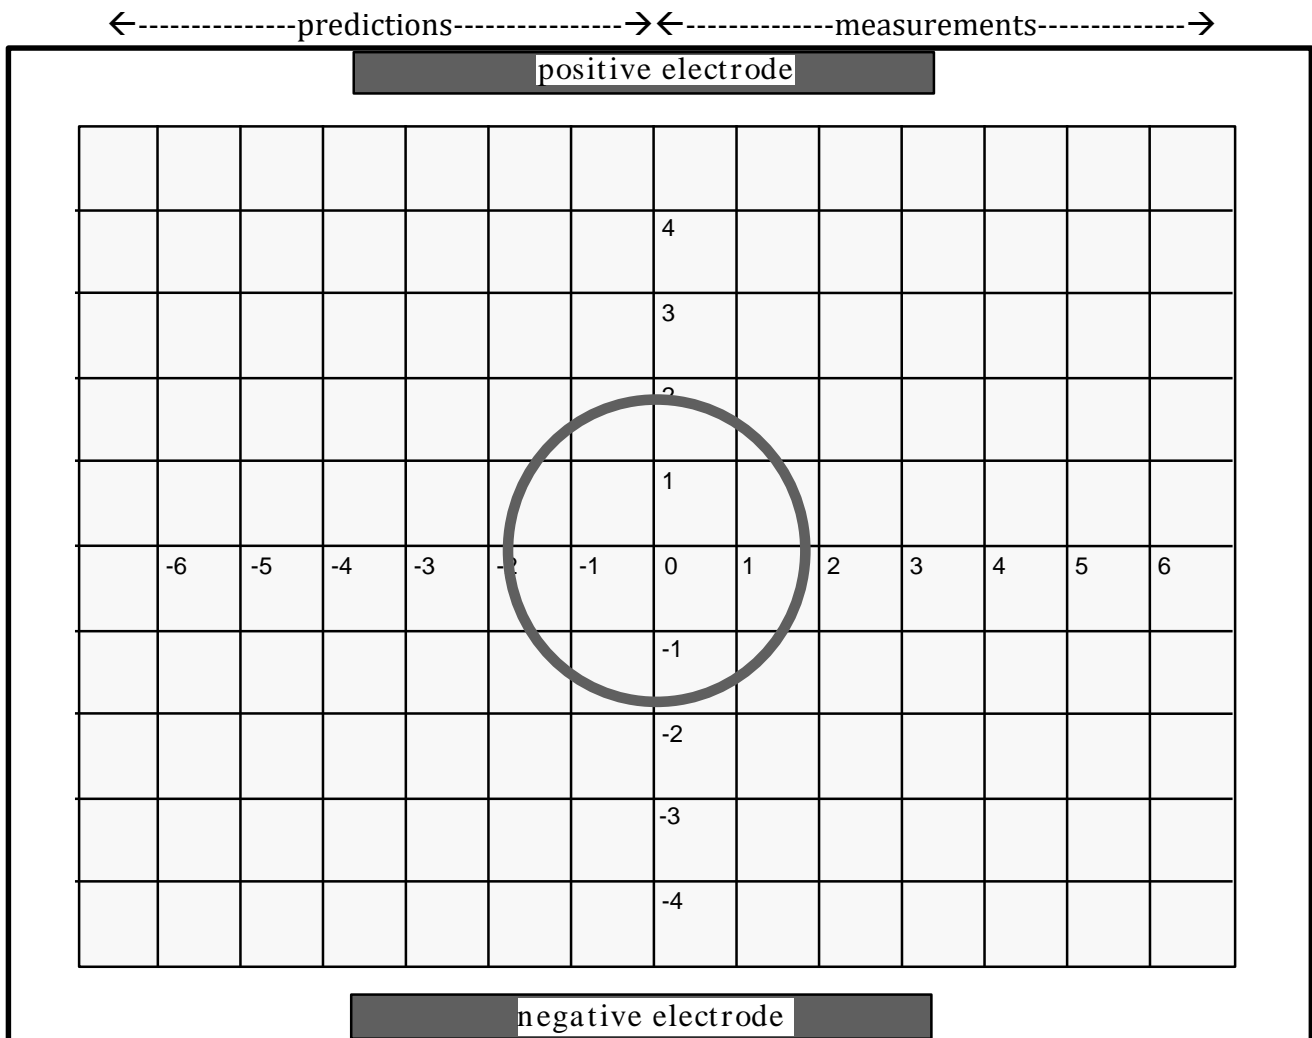

Figure 4. Two parallel plate electrodes with a conducting ring centered midway between.
Consider the electrode configuration of Figure 4 in which two parallel plates have (effectively) equal and opposite charges. Centered between the plates is a hollow, conducting ring.
Prediction From your knowledge of electric fields, and of their behavior at the surface of conductors, predict and sketch *several* electric field lines on the left half of Figure 4. Be sure to include the regions inside and outside of the ring.
Prediction Predict and sketch *several* equipotential lines on the left half of Figure 4. Use a different colored pencil and be specific in your drawing. Be sure to include the regions inside and outside of the ring.
- Make a series of equipotential measurements and sketch the equipotential surfaces on the right side of Figure 4.
- From these surfaces, deduce the electric field lines. Sketch them on the right side of Figure 4. Remember to put directional arrows on the lines.
At first glance, the arrangement of conductors in this activity is similar to that from Figure 4, although the electrodes are connected differently. Do you observe any *similarities* between the equipotential lines in the two figures? How about the field lines?
Now consider the *differences* between this setup and that of Figure 4. What features of the equipotential lines have changed? How about the field lines?